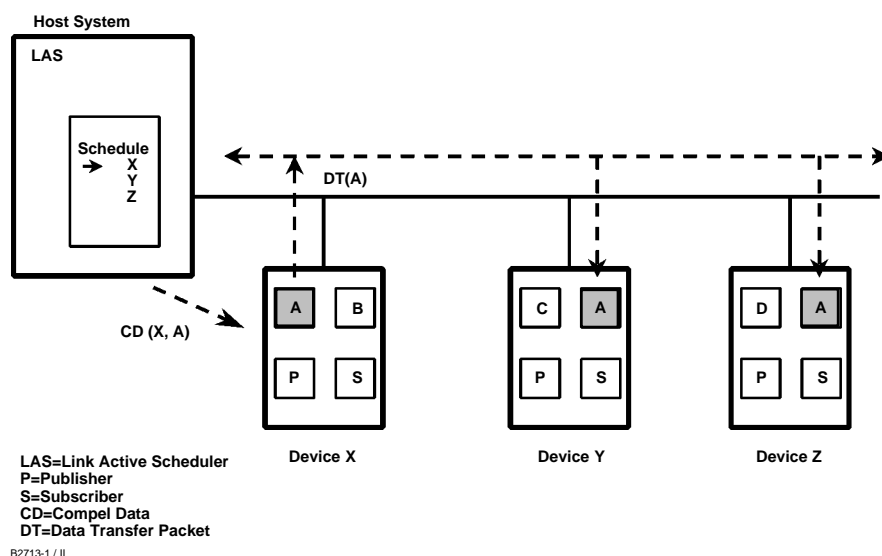

Figure D-4. Scheduled Data Transfer
Figure D-4 diagrams the method of scheduled data transfer. Scheduled data transfers are typically used for the regular cyclic transfer of process loop data between devices on the fieldbus. Scheduled transfers use publisher/subscriber type of reporting for data transfer. The Link Active Scheduler maintains a list of transmit times for all publishers in all devices that need to be cyclically transmitted. When it is time for a device to publish data, the LAS issues a Compel Data (CD) message to the device. Upon receipt of the CD, the device broadcasts or "publishes" the data to all devices on the fieldbus. Any device that is configured to receive the data is called a "subscriber".